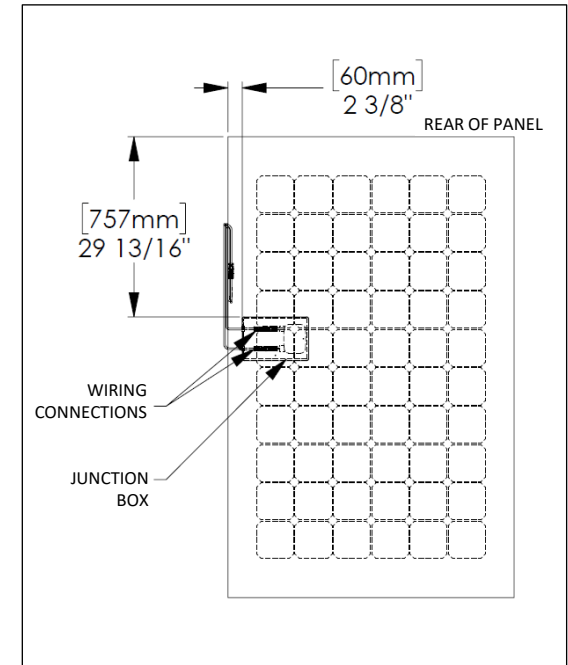

Fig. D3 – install junction box
9. Install junction box cover on solar panel. See Fig. D3 for location. Remove backing on VHB strips and adhere to clean, dry solar panel.